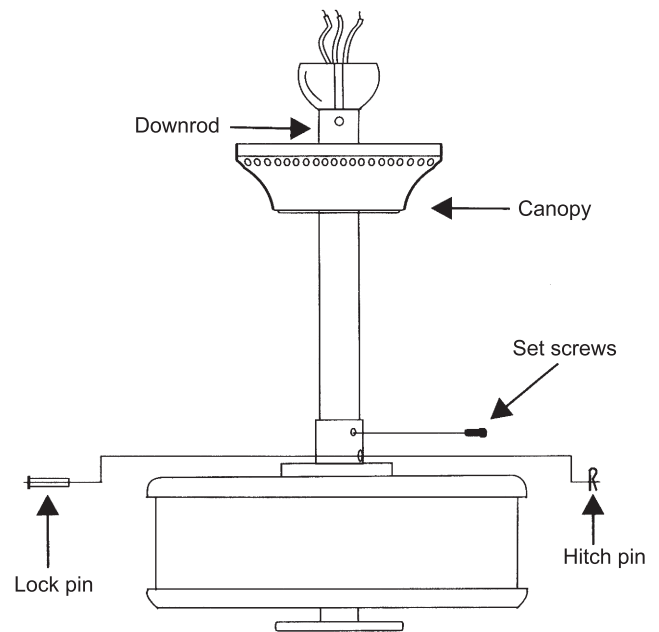

Figure 7
Step 5. Route wires exiting from the top of the fan motor through the canopy and then through the ball / downrod. (Fig. 7)
Step 6. Align the holes at the bottom of the downrod with the holes in the collar on top of the motor housing (Fig.7). Carefully insert the hanger pin through the holes in the collar and downrod. Be careful not to jam the pin against the wiring inside the downrod. Insert the locking pin through the hole near the end of the hanger pin until it snaps into its locked position. (Fig. 7.)
Step 7. Tighten two set screws on top of the fan motor firmly. (Fig. 7)